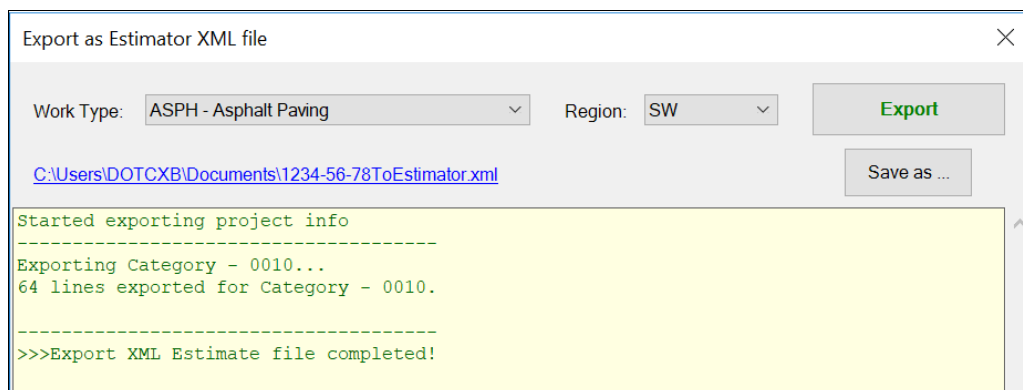

Figure 11.3 “Export as Estimator XML file” dialog box after XML creation.
3. Once the import file is created, save the XML named with the **XXXX-XX-XXToEstimator.xml** format in your project folder, or use the default path as shown in Figure 11.3.